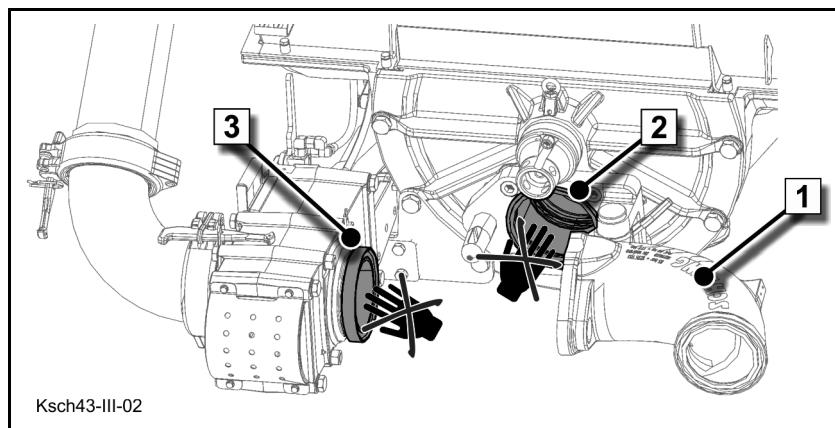

Fig. 469
If the "outlet" (1) (**Fig. 469**) is folded up, the chamber valve (3) and the rock valve (2) can be accessed.